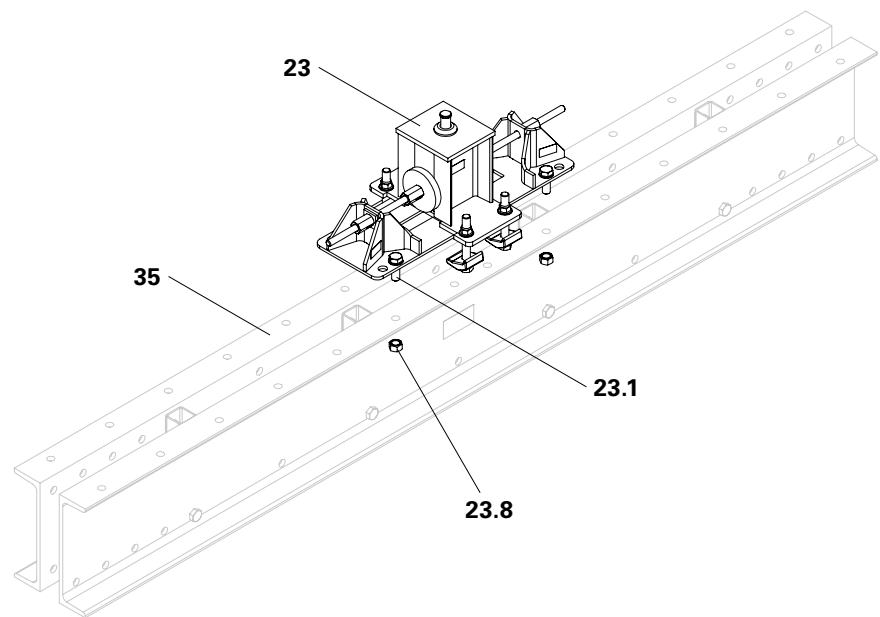

Fig. A4.01
1. Centrally place the Horizontal Bearing (23) on the Main Beam (35) so that the holes of the Main Beam (35) and Horizontal Bearing (23) lie flush above each other.
2. Mount the Horizontal Bearing (23) on the Main Beam (35) with the four bolts (23.1) and nuts (23.8). (Fig. A4.01)